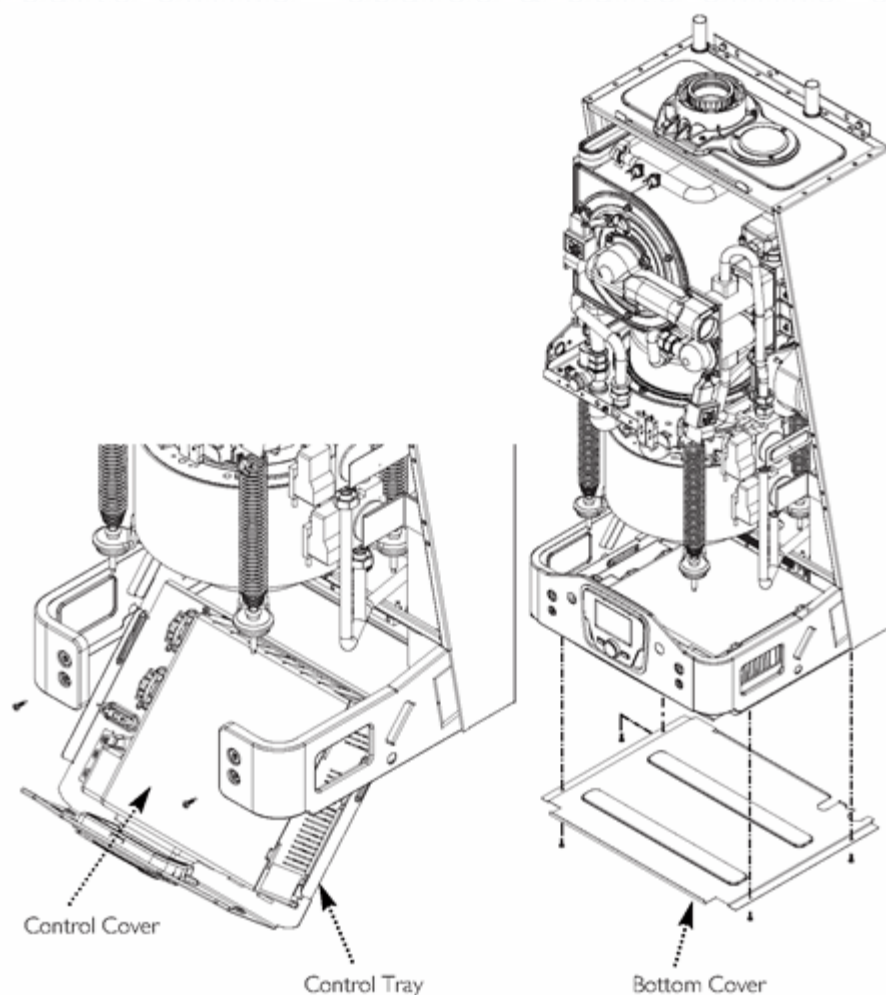

Fig. 68
14.16 PCB Main (Figs. 68,69 & 70)